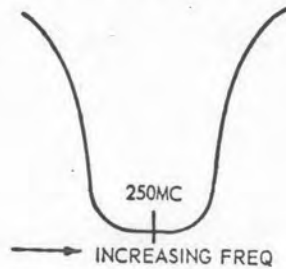

Figure 5-14
j. Using the marker signal as a reference, adjust C314, C318, and C320 to obtain a symmetrical, flat-surface display on the oscilloscope. The display should be centered at 250 mc as shown in figure 5-14.